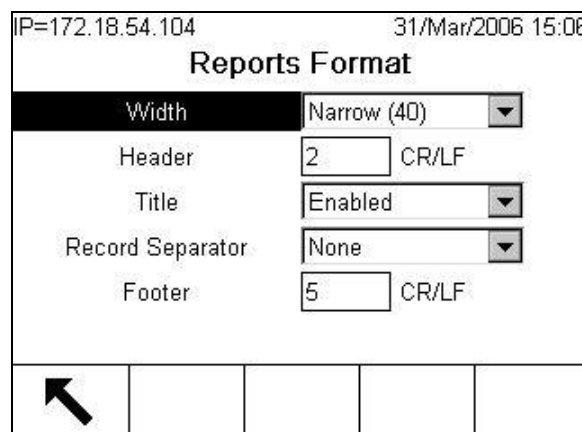

Figure C-44: Reports Format Screen
1. Press the SETUP softkey  and open Setup > Communication > Reports. The screen shown in Figure C-44 displays.